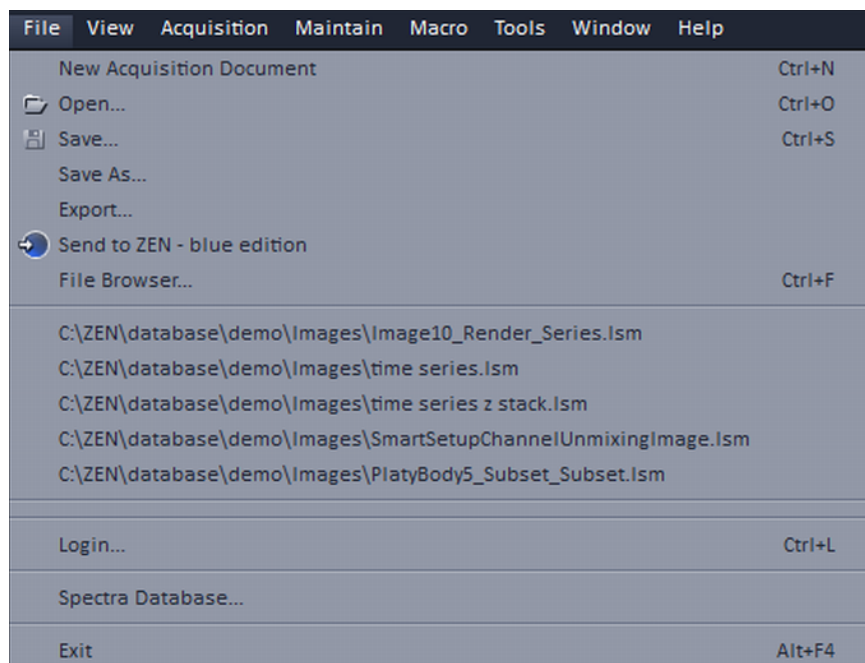

Fig. 23 File menu
- This displays the menu shown in Fig. 23.